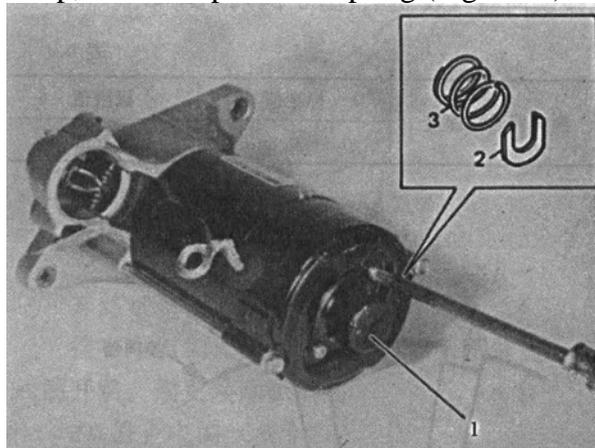

Fig. 9-13
(3) Remove commutator end cap, armature plate and spring (Fig. 9-13).